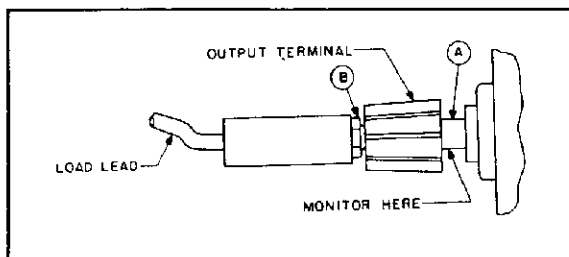

Figure 5-1. Front Panel Terminal Connections
**5-10** When measurements are made at the front panel terminals, the monitoring leads must be connected at point A, as shown in Figure 5-1, and not at point B. Connecting the measuring device at point B would result in a measurement that includes the resistance of the leads between the output terminals and the point of connection.